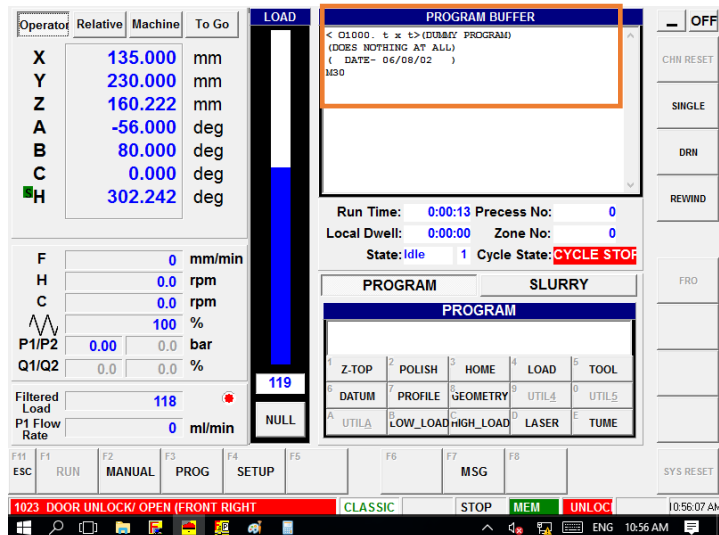

Figure 30 - Program Buffer window
7. Go back to the Zeeko GUI main screen and you will see the duplicate program displayed in the “Program Buffer” window. See (Figure 30 - Program Buffer window).